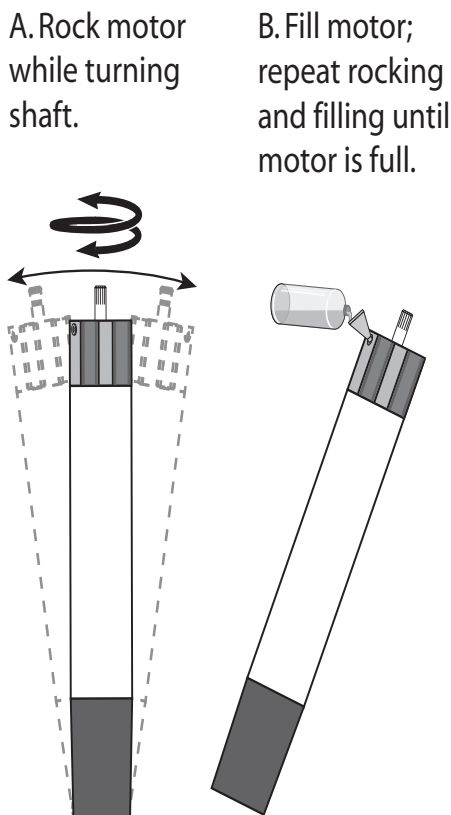

Figure 3: Rock Motor gently from side to side while turning shaft by hand (A), then fill with clean water (B). Repeat until full.
5. Install the motor so that during operation water flows past all parts of it at a rate of at least 0.5 fps (0.15 mps). If the well will not provide this flow, install a sleeve on the motor to channel water past it (see Figure 3). Do not try to operate the motor in mud or sand. To do so will damage the motor and void the warranty.